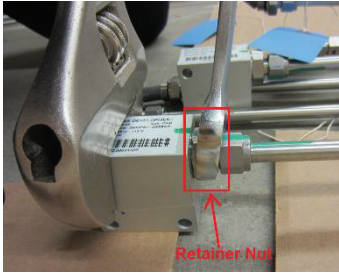

Figure 34: Separate the trigger line and the PRD block.
- Using an adjustable wrench or body fixture, hold onto the PRD block and using a 7/8" wrench, hold onto the flats of the retainer nut (Figure 34).